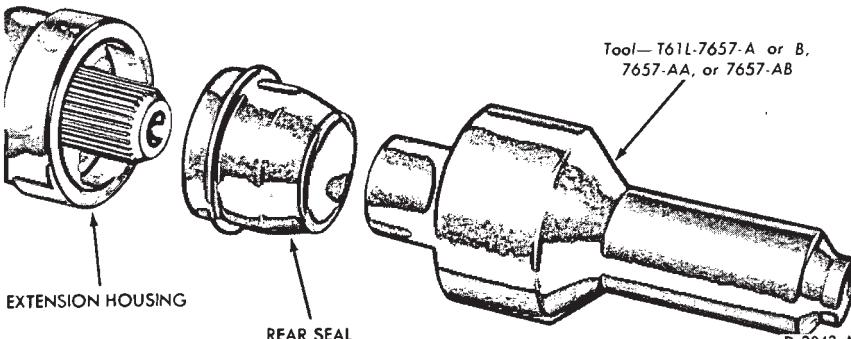

FIG. 22—Installing Extension Housing Seal
7. Install the seal into the housing with the tool shown in Fig. 22. The seal should be firmly seated in the bore.